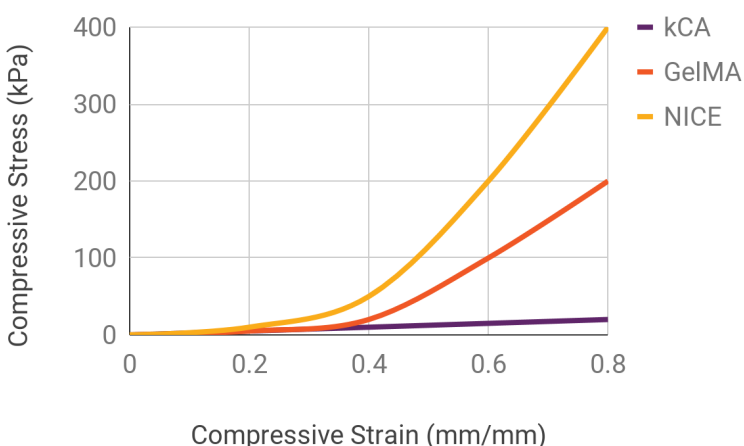

Figure 4. Polymer Strengths. The relative strengths of the individual polymers used compared to the combined NICE bioink when undergoing stress.
In the Science Bite, the scientists used these two different polymers to change the strength and flexibility of the NICE bioink. **Figure 4** shows the relative strengths of the polymers and the NICE Bioink by measuring the amount of strain (how far in mm the polymer is squished per mm of polymer) when a particular amount of stress (pressure) is applied.
7. The Bite states that the NICE polymer is the strongest. How does the data from **Figure 4** support that conclusion?